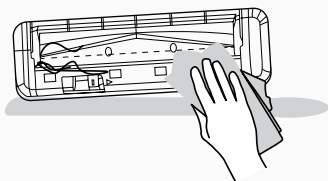

Fig. 13
4. Use the dry cloth to remove any entanglement from the agitator and the dirt on the bristles. Do not lose the rubber sleeve on the ball bearing. [Fig. 13]